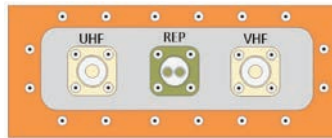

Figure 5:
- The bulkhead mount connectors are clearly marked to facilitate proper installation. (See Figure 5)